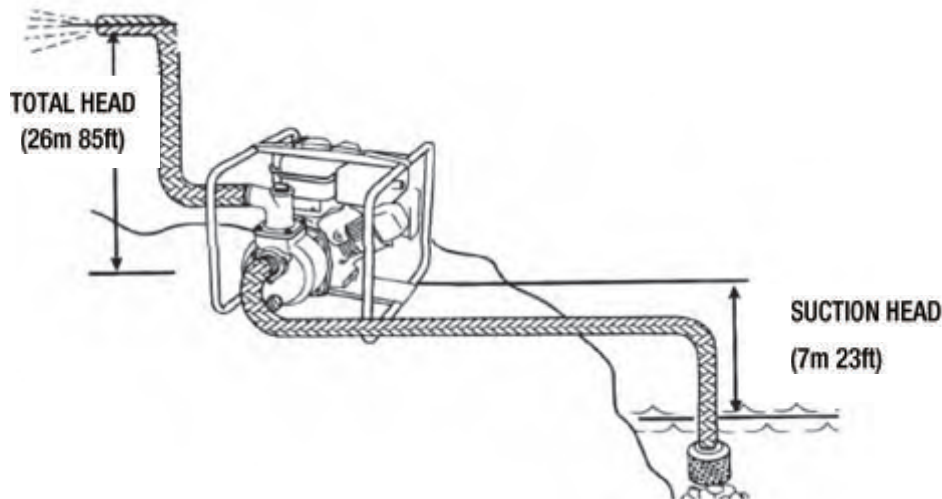

Figure 1 - Typical installation
1. Place unit as close to water source as possible to minimize suction lift, obtain the best pumping performance, and aid in priming. A typical portable installation is shown in Figure 1.
3. Connect either rigid pipe or flexible suction hose to pump suction as shown in Figure 1. If hose is selected, hose must be rated to hold the suction pressure and prevent collapse while the pump is running.
5. Minimum depth for the suction inlet is determined by the diameter of the suction line. See Figure 1.